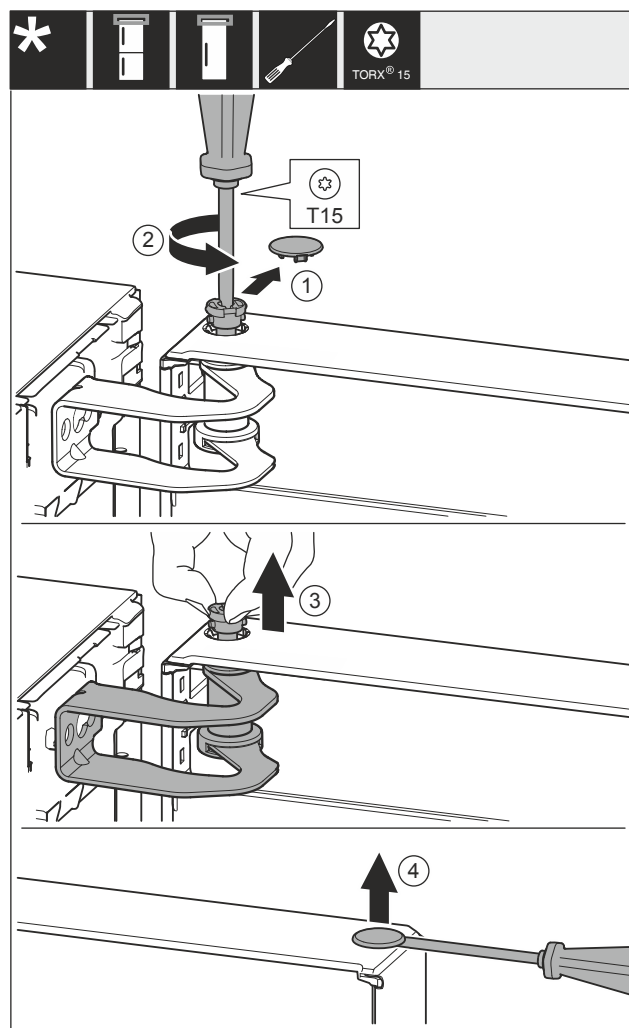

Fig. 9
- Carefully remove the cover Fig. 9 (1).
- Use screwdriver to loosen the bolts Fig. 9 (2) a little.
- Pull out the bolt Fig. 9 (3) with your fingers.
- Carefully lift and remove the cover Fig. 9 (4) with a screwdriver.